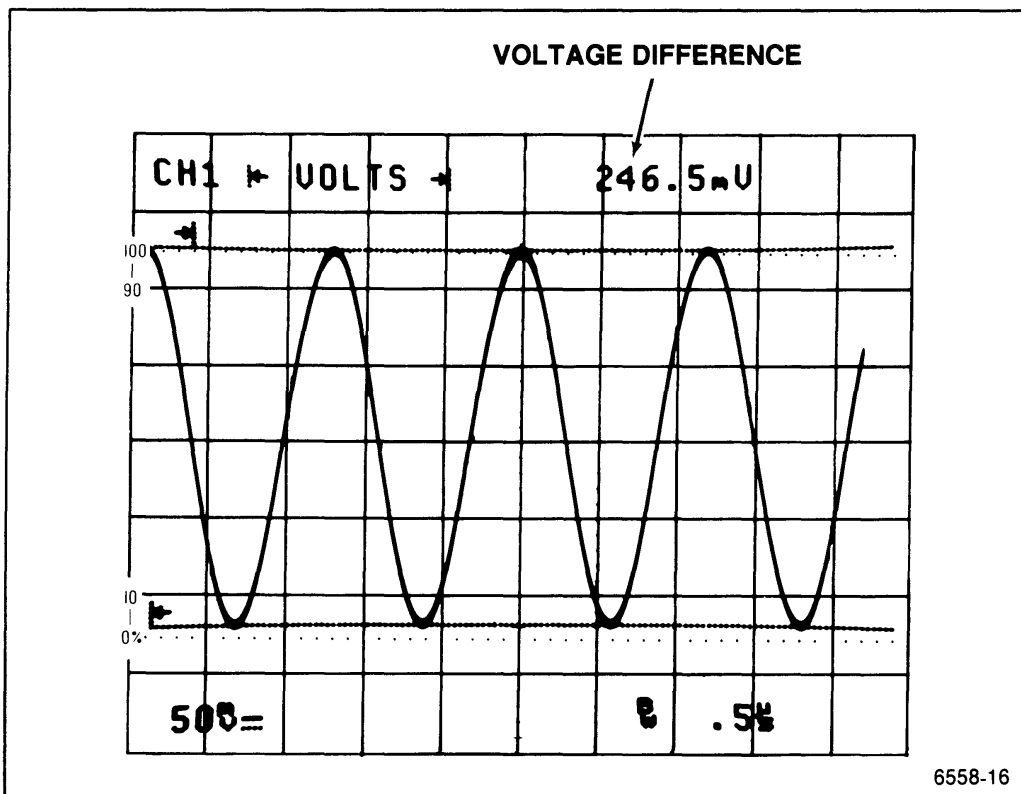

Figure 5-1. Voltage difference measurement using cursors.
5. Press the CURSOR VOLTS button to display the voltage cursors. The voltage cursors are initialized to the peak-to-peak voltage levels of CH 1. (See Figure 5-1).